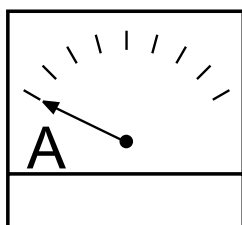

Figure 31. Ammeter (No Load)
- The ammeter (Figure 31) will indicate **zero amps** with no load applied. When a load is applied, the ammeter will indicate the amount of current that the load is drawing from the generator.